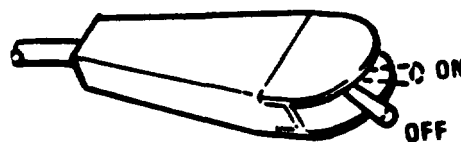

Figure 2-5. ON-OFF Switch
b. Electric Motor. Place motor ON-OFF switch in the OFF position. (figure 2-5)